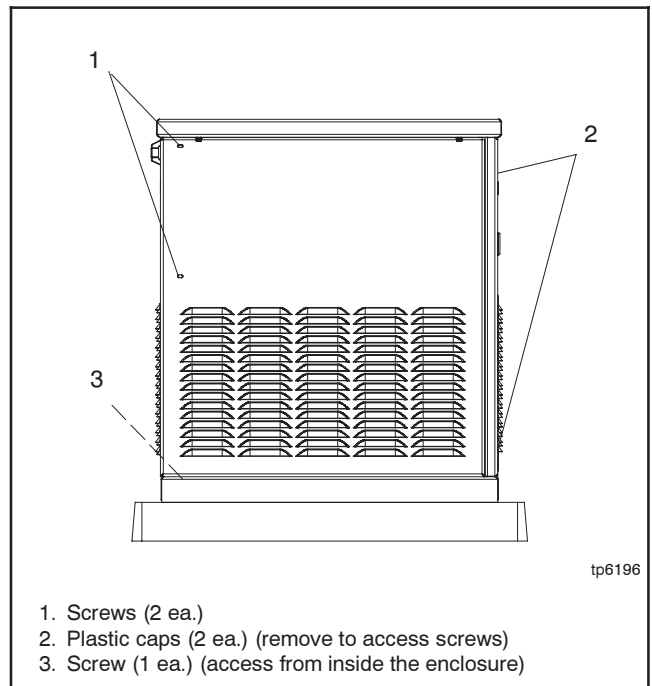

Figure 7-2 Front Panel Mounting Screw Locations
- d. Remove 5 screws to remove the front panel. Remove the plastic caps to access the 2 side screws. See Figure 7-2.